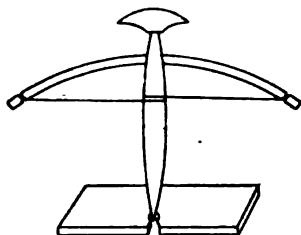

FIG. 120.—Boy-scout method of making fire by friction.
14. The turbine in the City of Tacoma Power Plant (see Fig. 120) uses a head of 415 ft. 145 cu. ft. a second pass through the turbine. Calculate the horse-power.
*Fourth*, heat is also produced whenever *mechanical energy* of motion is overcome, whether it be by *friction*, *concussion*, or *compression*. Friction *always* results in the production of heat, as when we warm our hands by rubbing them together. When friction is excessive, such as in the case of a heavy bearing not properly oiled, the bearing may get very hot. This is the cause of the "hot box" on a railway car. Friction may produce heat enough to set wood on fire. Some fires in mills are believed to be due to this cause. Every *boy scout* must learn how to produce fire by friction. (See Fig. 120.) *Concussion* may be illustrated by the heating of a piece of metal by hammering it, while the compression of a gas always makes it warmer, as those who have used a bicycle pump have observed. The production of heat by compressing a gas is illustrated by the "fire syringe" (Fig. 121). This consists of a glass tube with a tightly fitted piston. A sudden compression of the air contained may ignite a trace of carbon bisulfid vapor.